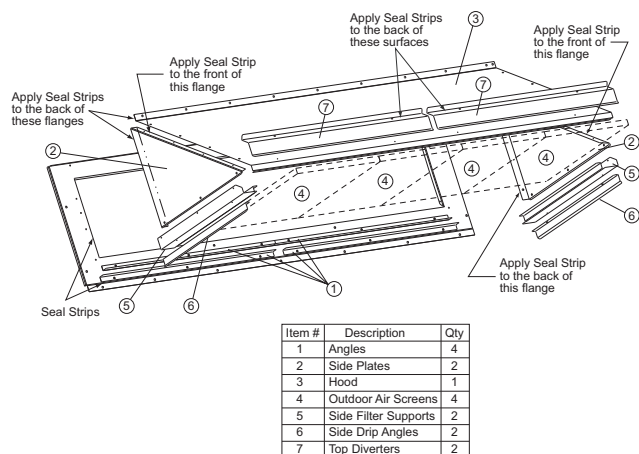

Fig. 14 - Hood Part Identification and Seal Strip Application Areas
See Fig. 14 for identification of the various parts of the hood assembly.
3. Apply seal strip to mating flanges on the side plates of the hood (see Fig. 14).
5. Apply seal strip to mating flange of the hood (see Fig. 14).